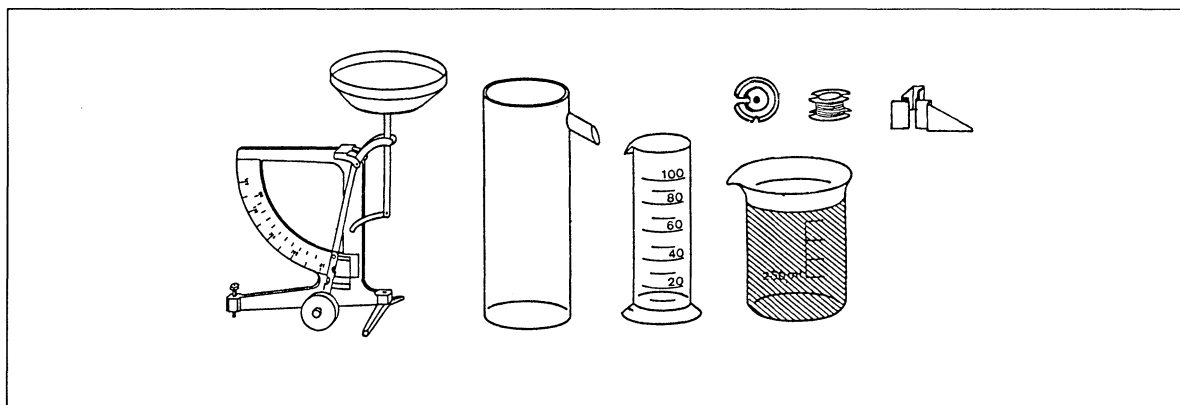

Fig. 1 ► 1.
1. Lay out all items of apparatus ready for use, as shown in fig. 1.